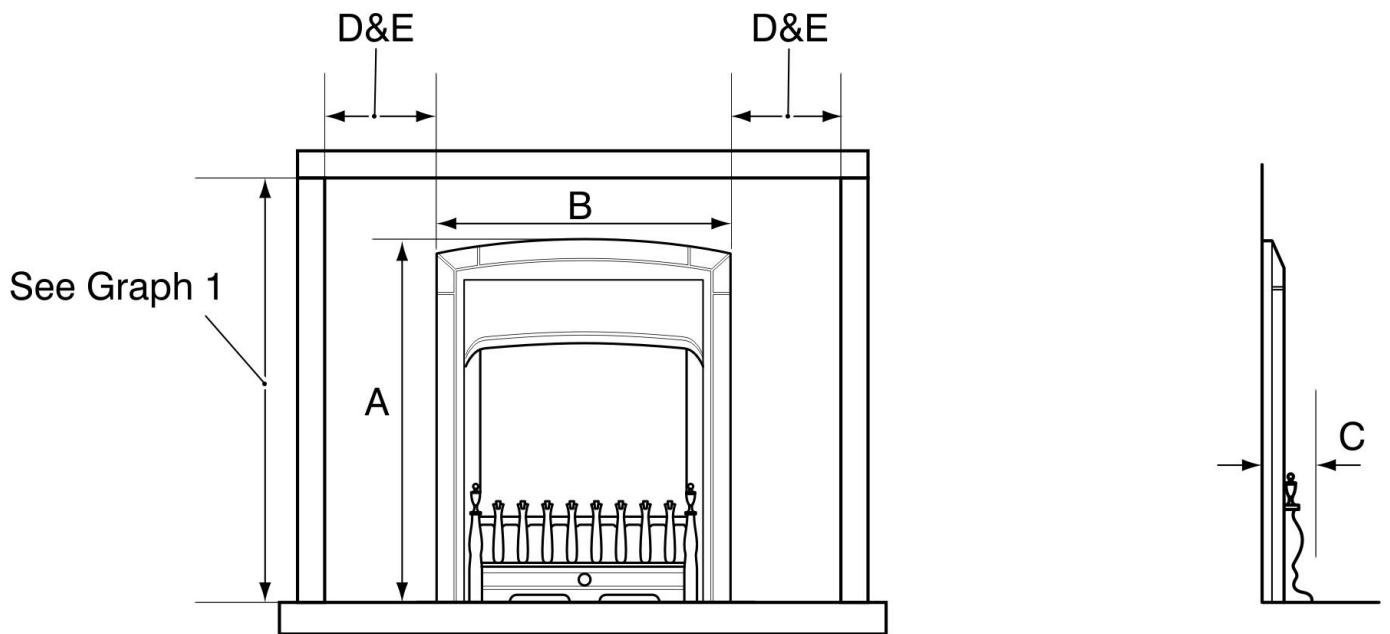

Figure 5. Appliance dimensions and clearances (Fascia may differ from that shown)
- If the lower part of the fascia (the firefront) is free standing, the recommended reduced hearth depth is 100mm. This is necessary to support the firefront (See figure 5 for appliance dimensions).
3.18 The minimum allowable distance from the outside of the appliance fascia to a corner wall having combustible material or any other combustible surface which projects beyond the front of the appliance is shown in figure 5.
Figure 5 also gives the necessary access clearance from a non-combustible surface at both sides.